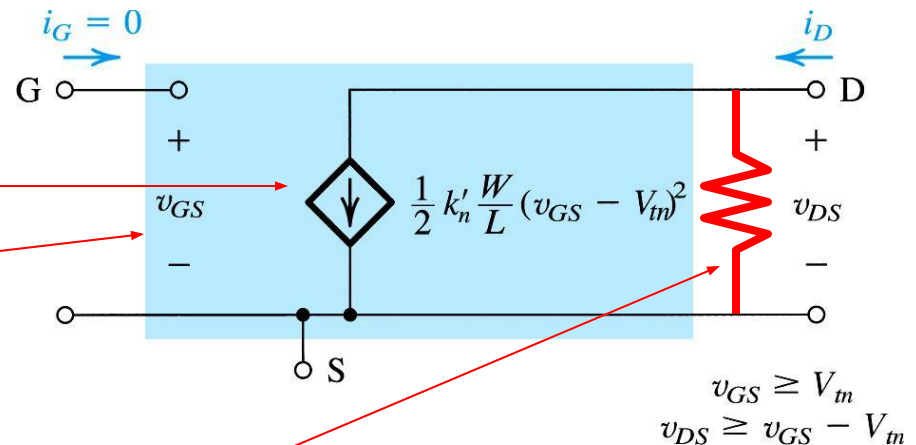

Figure 5.15: Large-signal equivalent-circuit model of an n -channel MOSFET operating in the saturation
- The view of transistor as CVCS is exemplified in figure 5.15.